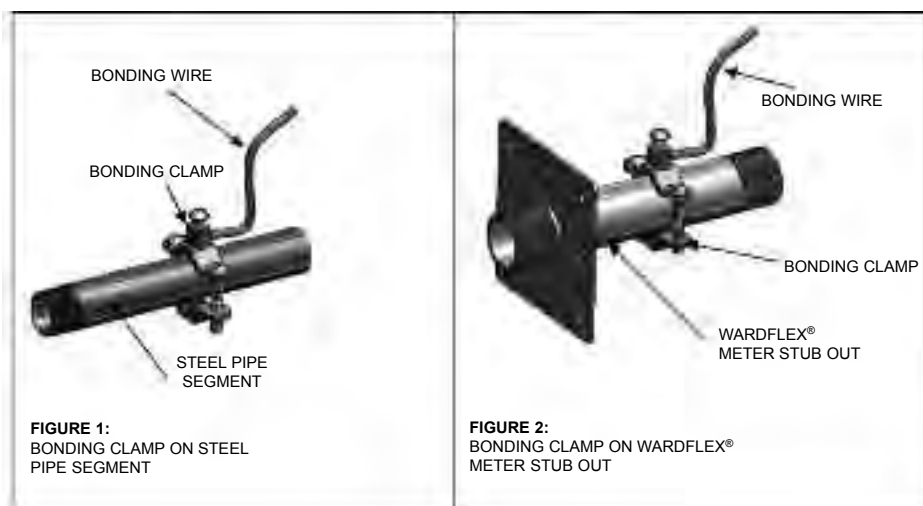

Figure 4.41
- The bonding clamp is attached at one point within the piping system to a segment of rigid pipe, a pipe component such as a nipple, fitting, manifold, or CSST fitting provided it is manufactured with an appropriate and Code listed material. The bonding clamp must be attached such that metal to metal contact is achieved with the steel pipe component. Remove any paint or applied coating on the pipe surface beneath the clamp. See Figure 4.41 for guidance. The corrugated stainless steel tubing portion of the gas piping system shall not be used as the point of attachment of the bonding clamp at any location along its length.